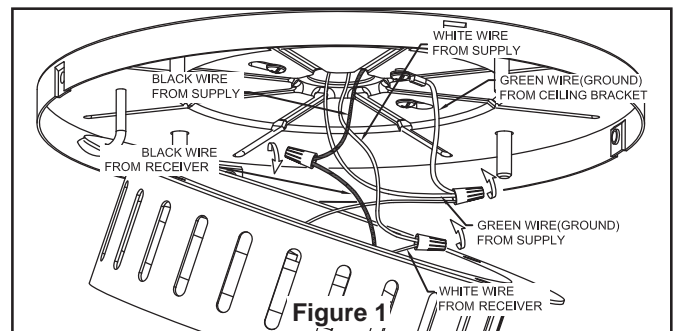

Figure 1
Your new ceiling fan will require a grounded electrical supply line of 120 volts AC, 60 HZ, 15 Amp Circuit. Electrical code requires use of a fan-rated outlet box to support the extra weight and motion associated with a ceiling fan. A fan-rated box will be labeled as such and typically supports up to a 70lb ceiling fan. Fan-Rated Outlet Boxes vary in ratings and design. Ensure the ratings of your ceiling fan outlet box meet the requirements for the ceiling fan being installed. Figure 1, Figure 2 and Figure 3 depicts different structural configurations that may be used for mounting the outlet box.
### Low profile usage diagram idea (Figure 1)
The fan must be hung with at least 7' of clearance from floor to blades. (Figure 1)
- 1.** Connect the green grounding lead from the ceiling bracket to the supply grounding conductor (this may be a bare wire or wire with green colored insulation). Securely connect wires with a wire connector. Securely connect the white receiver wire (coming from fan) to the white supply (neutral) wire using a wire connector. Securely connect the black receiver wire (coming from fan) to the black supply wire using a wire connector. (Figure 1)
- 2.** After splicing and making the wire connections, the wires should be spread apart and turned upward with the grounded conductor and the equipment-grounding conductor on one side of the outlet box and the ungrounded conductor on the other side of the outlet box. (Figure 1)
1. Assemble the motor assembly to ceiling bracket assembly using the previously removed hex nuts and securely tighten all hex nuts. (Figure 1)
1. Position the blade over the blade holder with threaded posts showing. Make sure the bottom edge of the blade is fully seated against the blade holder. With a phillips screwdriver, tighten 3/16"-24 x 15 mm washer head screws and flat washers to secure the blade to the blade holder. (Figure 1)